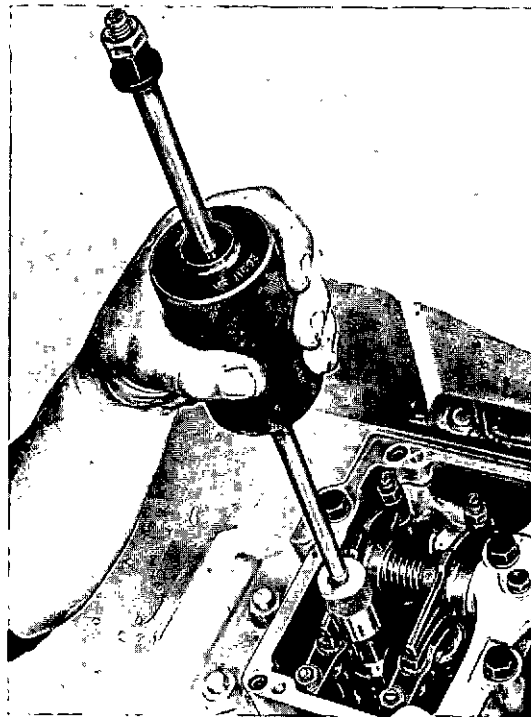

Fig. 10 Using slide hammer
- 3 Release the injector clamp socket capscrew, lift off the finger clamp and spherical washer and withdraw the injector. A sticking injector may be freed using the Slide Hammer, GA 5100, with Adaptor, GA 5100-5. Care must be taken to avoid slackening the copper sleeve in its housing when using the slide hammer (fig. 10).